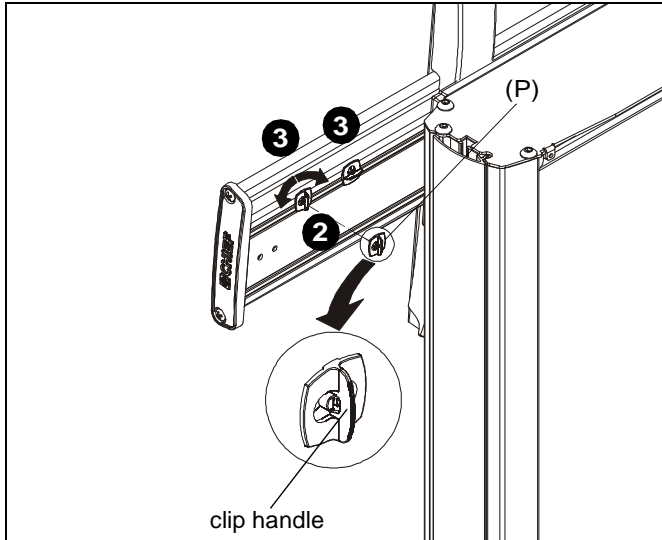

**Figure 14**
4. Install front cover back on cart using magnets. (See Figure 14)
5. (Optional) Re-install four button head cap screws if additional security is desired. (See Figure 14)